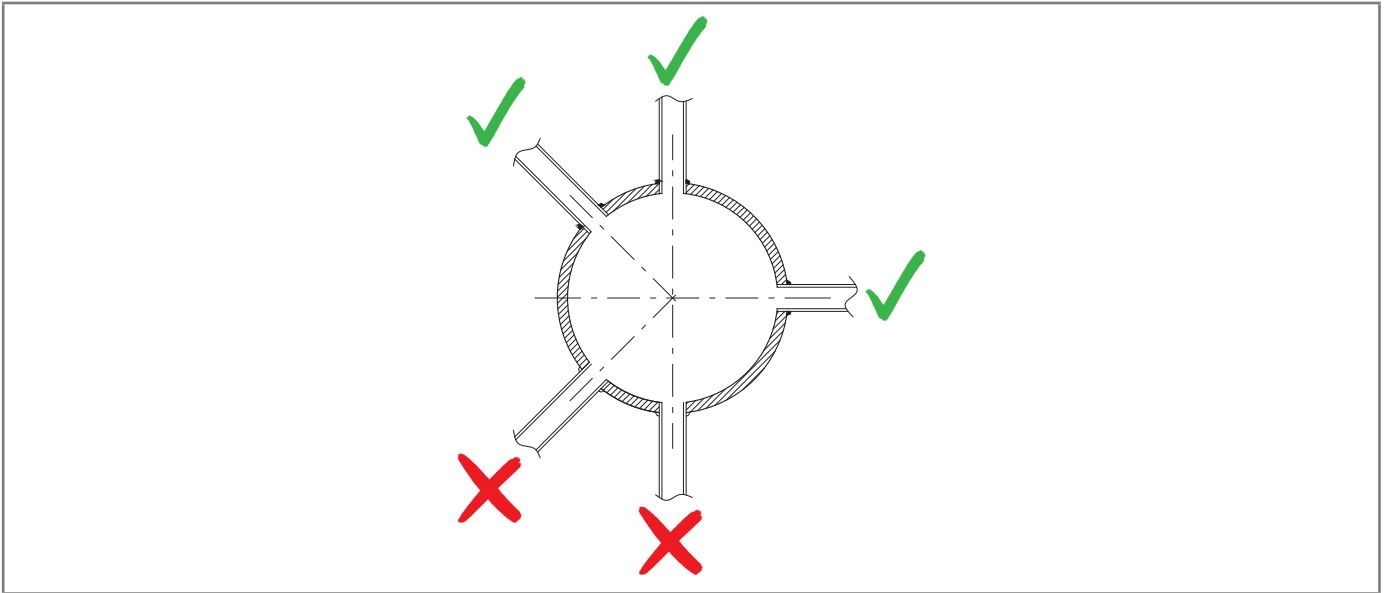

Fig. 6.22. *Welded connections of the pneumatic connection*
- the pneumatic connection couplings are always welded on the upper part or at maximum 90 degrees on the axis of the piping (refer to Fig. 6.22);